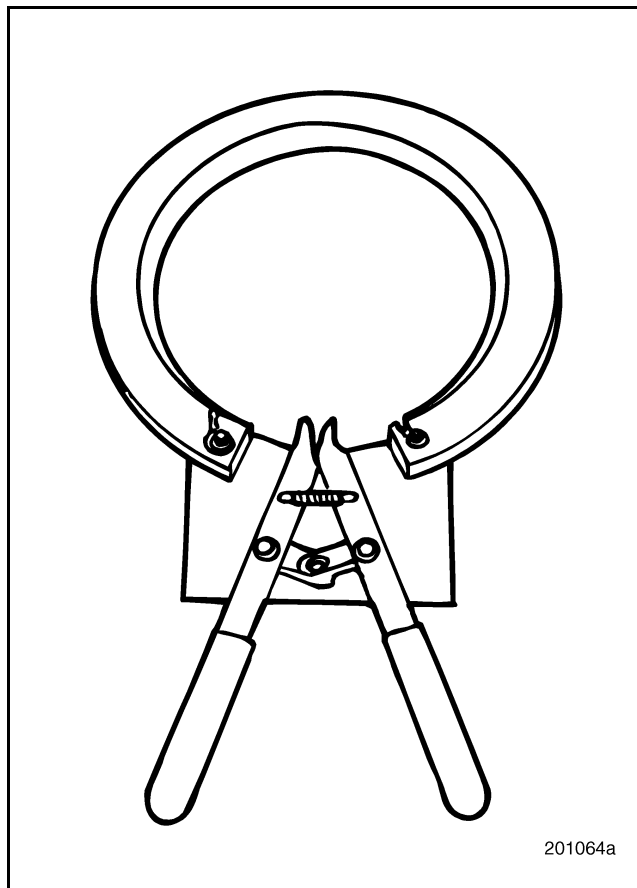

Figure 238 — Piston Ring Expander PT6587
1. To prevent distortion, use the proper size piston ring expander, PT6587 (Figure 238), to place the rings in the piston grooves.